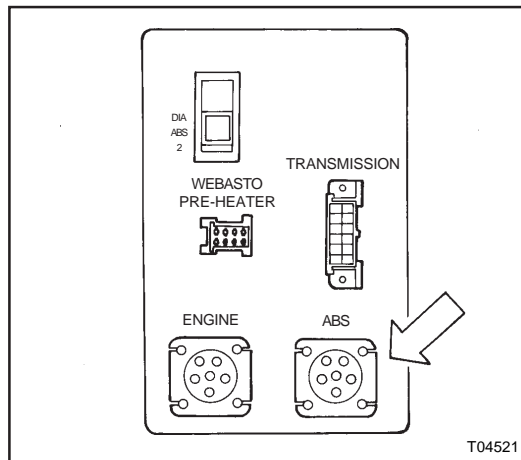

Figure 10: 6-pin diagnostic receptacle (located in diagnostic box in R.H. console of dashboard)
3. Insert the 6-pin connector from the Pro-Link into the 6-pin diagnostic receptacle (see figure 10).